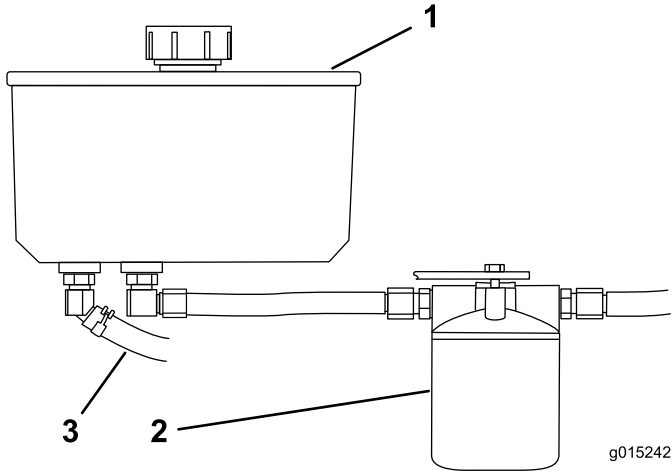

Figure 81
4. Locate the front hydraulic hose under the hydraulic tank and place a drain pan under the tank (Figure 81).